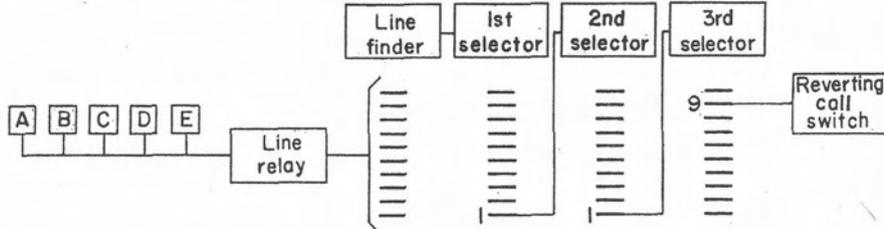

Figure 3. Reverting call by special number.
2.2 The caller dials a SPECIAL NUMBER. A reverting-call switch (figure 1) completes the call (figure 3). This is the most common method.
**5.02 Access.** The reverting-call switch usually is reached through a selector level. In a large exchange, usually "119" (see figure 3) is dialed to reach the reverting-call switch. In a small exchange, ordinarily "9" is dialed to reach the switch.